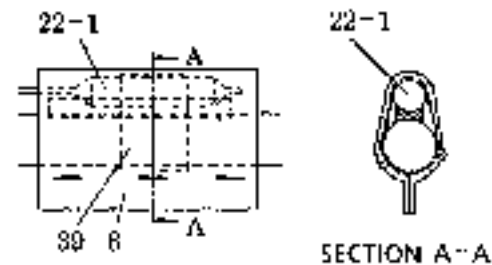

Fig. 16
- 3) Peel off thermal insulation material (8) of the temperature sensing part and separate thermowell stay (39). (See Fig.16.)
- 1) Turn the link (28-1) of mode link ass'y (28) to the position in Fig.16. (So the mode damper closes the lower blowoff port.)
- 2) Attach mode link rod (29) by pulling it toward (A).
**⚠** Never remove rod clamp (38) except when replacing the motor actuator with a new one. In case you have removed it by mistake, turn the fan switch to [I], [II] or [III], set the blowoff mode to FACE [  ] and installed it according to para. (2) above.